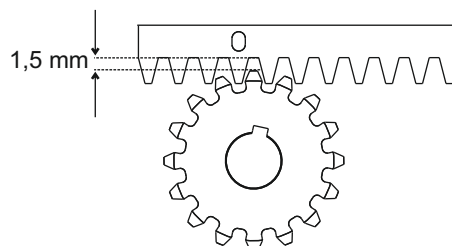

Fig. 10
**5.6.** To avoid that the door weights down on the pinion (Fig.10) lift up the whole rack about 1,5 mm.